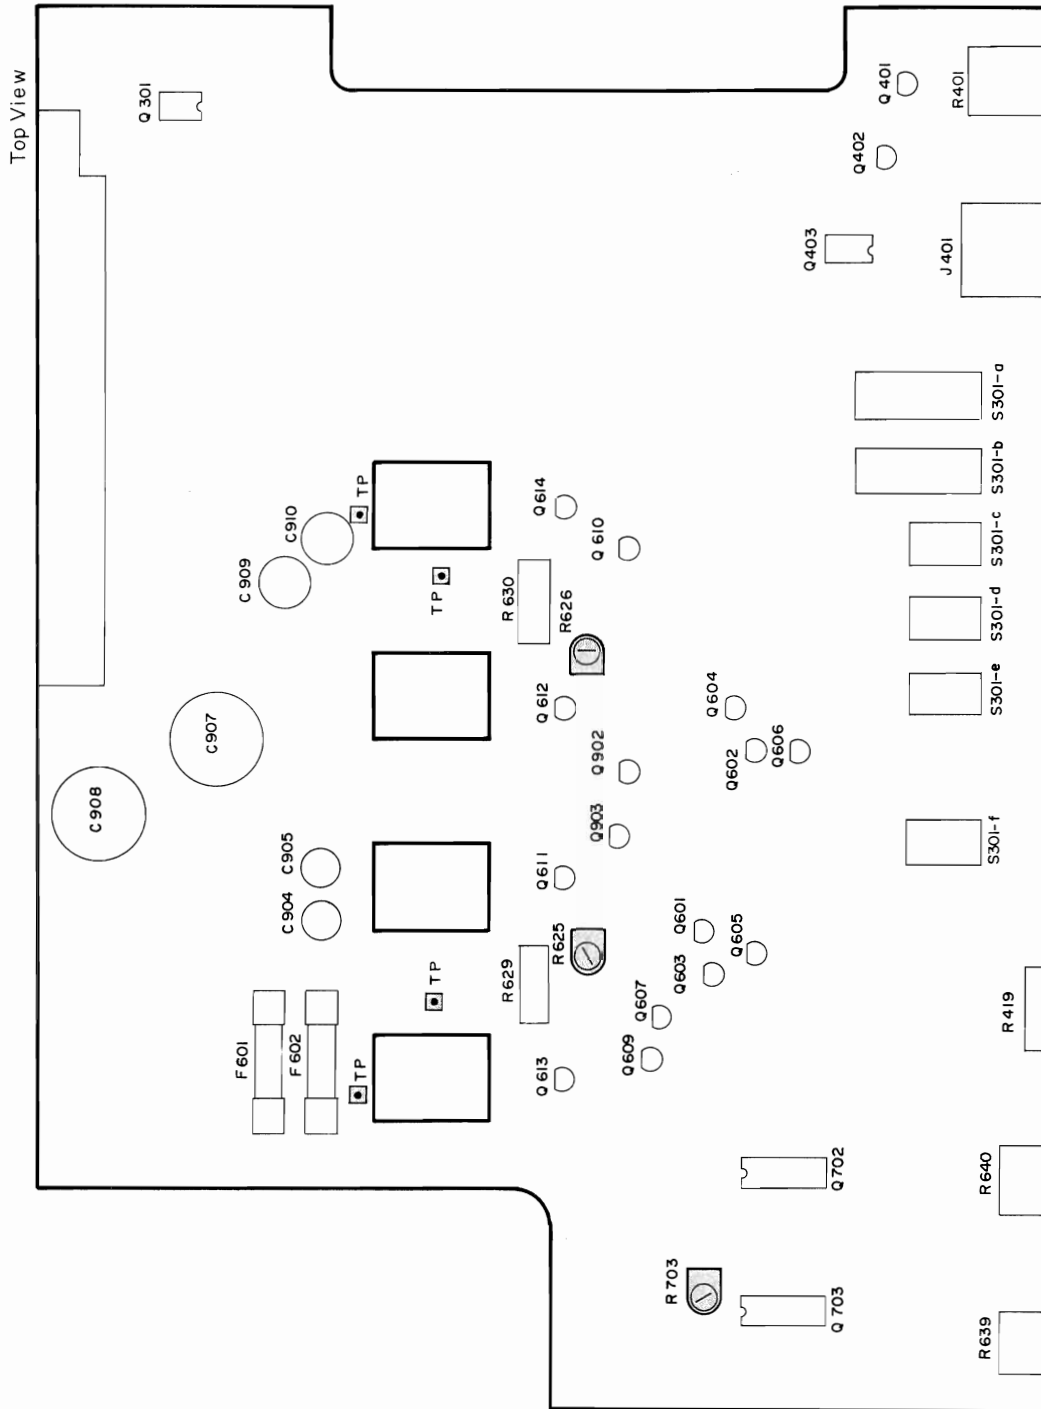

Figure 7
1. Idle current adjustment can easily be done by setting the semi-fixed VR R625, 626 (300 ohm) to mechanical mid point VR as shown in Figure 7.